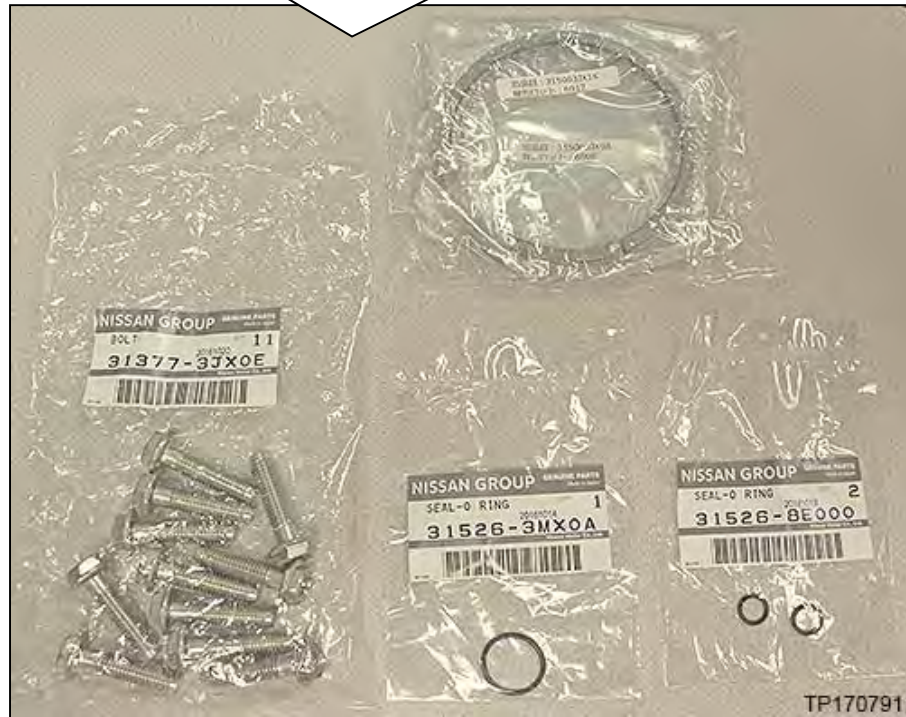

Figure 284
- Figure 284 and Figure 285 show the smaller components of individual kits.